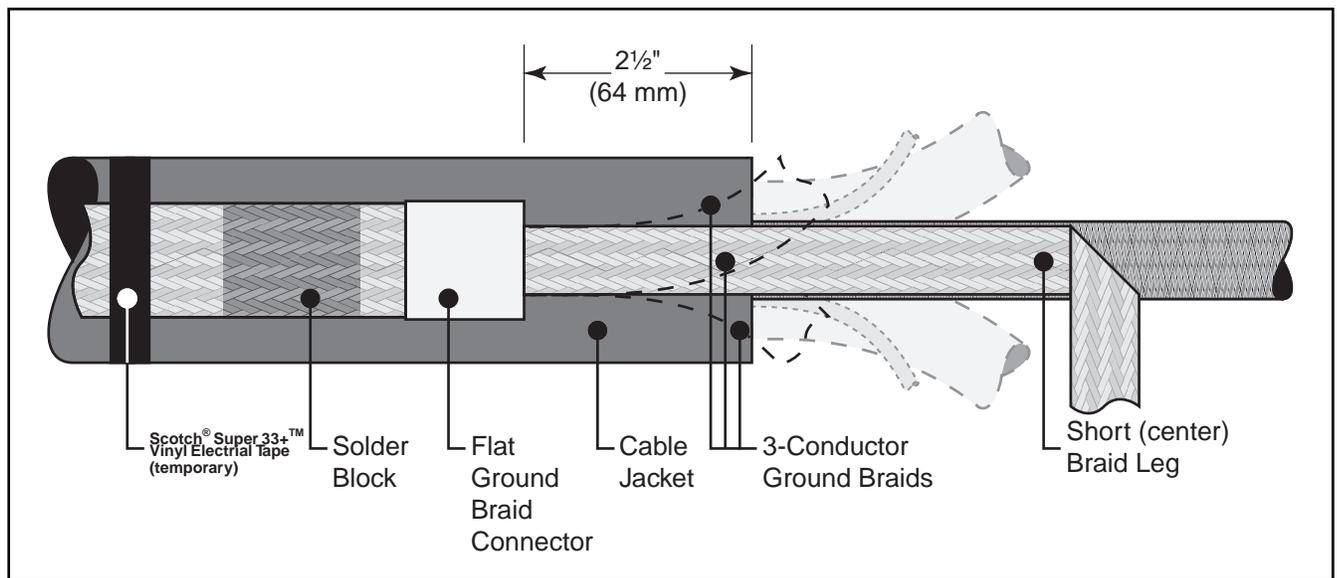

Figure 7
- 4.2 Install 3-Conductor Ground Braid Assembly: Position braid along cable jacket with the flat ground braid connector located 2-1/2" (64 mm) from edge of jacket, as shown. Temporarily secure braid to cable jacket with 1 or 2 wraps of Scotch® Super 33+™ Vinyl Electrical Tape. (Figure 7.)
- 4.3 Wrap short (center) braid leg around shielding of nearest phase conductor for one complete wrap. trim excess braid to eliminate overlap. (Figure 7.)